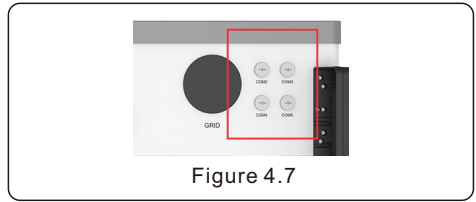

Figure 4.7
b. Remove the cap nut from the waterproof cable glands labeled at the bottom of the inverter. Remove the plug from the fitting. (See figure 4.7).